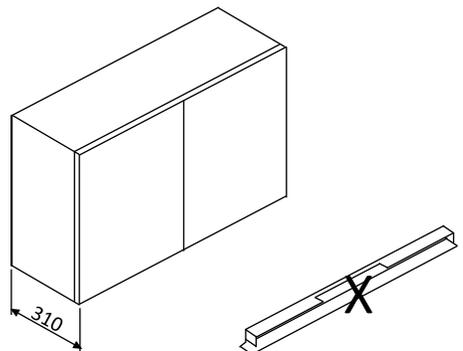

Fig 3
1. If the cupboard depth is 310mm then the extensions piece isn't required (**Fig 3**).